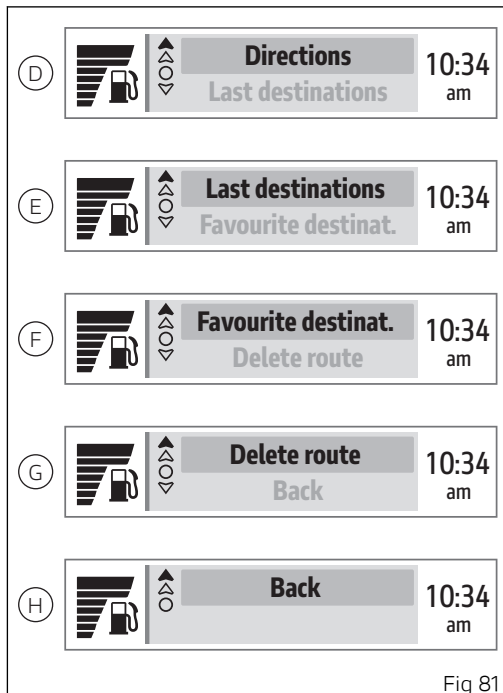

Fig 81
- Select the "Directions" item (D, Fig 81) and press ENTER (3).
- Select the item "Last destinations" (E, Fig 81) and press ENTER (3).
- Select the "Favourite destinat." (F, Fig 81) item and press ENTER (3).
- Select the "Delete route" item (G, Fig 81) and press ENTER (3).